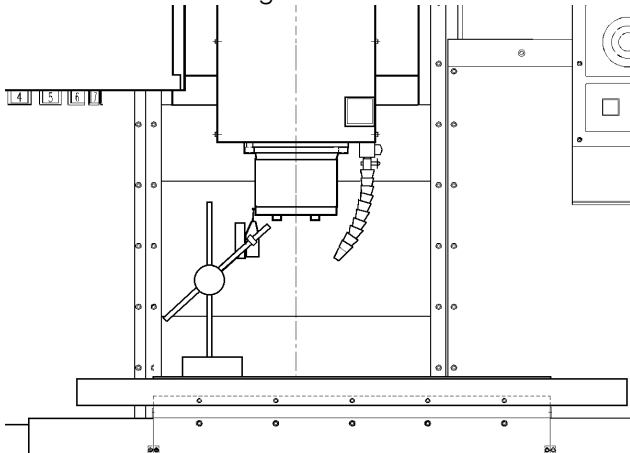

Fig. 3-1 Dial indicator in position to check X-axis.
1. Set up a dial indicator and base on the mill table as shown in Fig. 3-1.
An alternate method for checking backlash is to place the dial indicator as shown in Fig. 3-1 and manually push on the mill table in both directions. The dial indicator should return to zero after releasing the table.